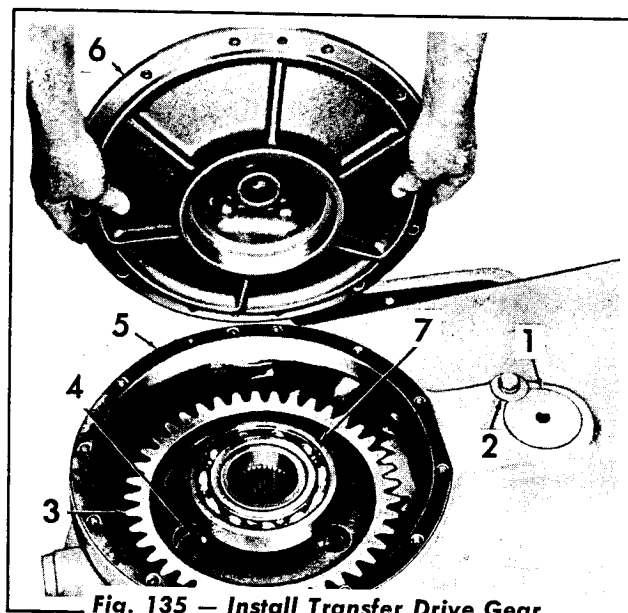

Fig. 135 — Install Transfer Drive Gear
6. Secure the spindle (Fig. 135) with the retainer, the capscrew, and lockwasher. Install the transfer drive gear assembly. Tap